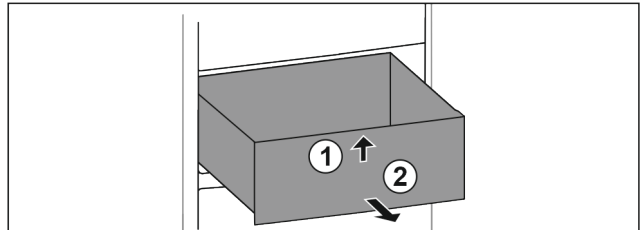

Fig. 29
- ▶ Lift up drawer at the front. Fig. 29 (1)
- ▶ Remove drawer to the front. Fig. 29 (2)